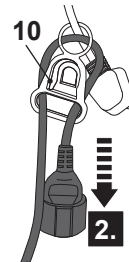

Fig. 5
2. Pull it over the hook of cord retainer (10) and gently tug on the cord to ensure that it is firmly secured (Fig. 5).